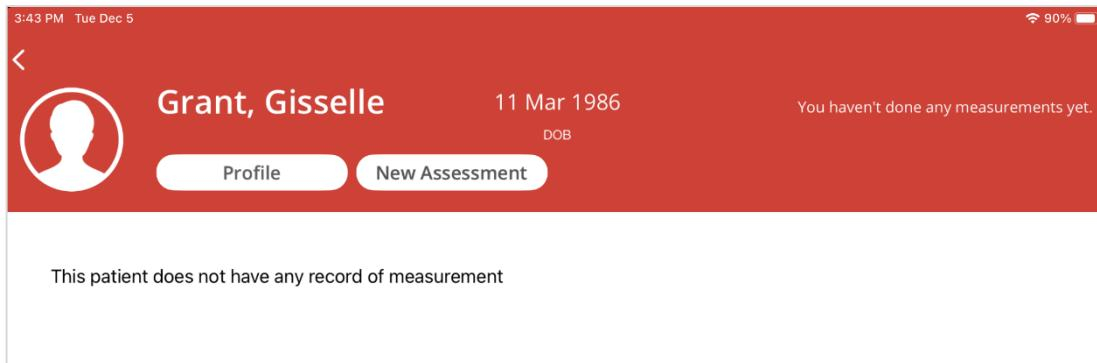

Figure 22: Patient History screen (new patient)
4. Once the form has been completed, the **Patient History** screen will be displayed with no previous assessment results (Figure 22).